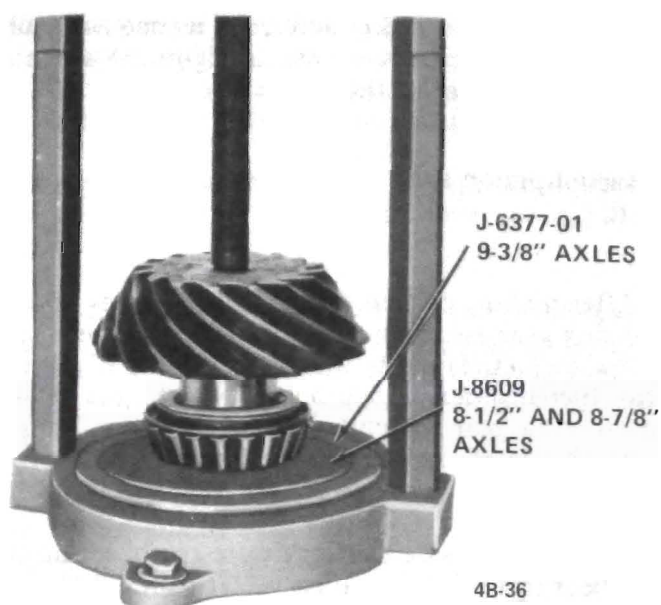

Figure 4B-36 - Installing Rear Pinion Bearing
3. Install pinion oil seal in carrier. Install seal by using Installer J-22388. See Figure 4B-37. A correctly-installed pinion seal having a flanged case should be flush with nose of carrier casting.